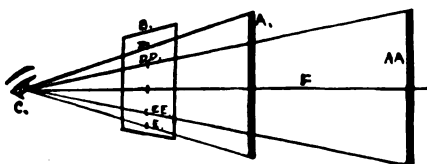

FIG. 1
Now take a lead pencil (Fig. 1, A), place a short distance from an assumed picture limit (B), on the other side of it from the eye of the observer C. The lines D and E passing through the P. L. give the size the image will appear on the picture at that distance from the observer. Remove the pencil further away, as at AA, and then the lines DD EE give the smaller size of the image at this greater distance. This size of the image as governed by the distance it appears to be is called the "picture plane" (P. P.), and the points C and the extremities of A, or AA, are the three corners of the "visual angle."